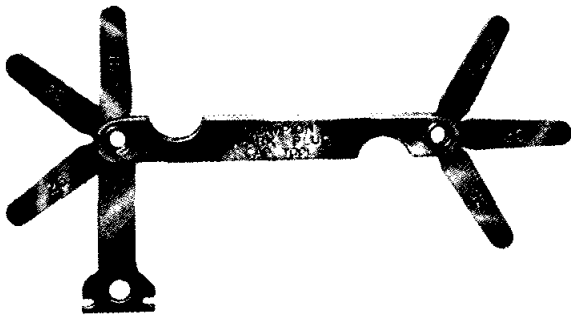

Fig. 44 **The Champion Spark Plug Gap Tool.**
- (h) Next, we are ready for resetting the electrodes (Fig. 44). Remember that electrode corrosion and oxides at gap area vitally affect spark efficiency. The cleaner can remove the oxides and deposits from the insulator, but because of gap location, the cleaner stream cannot always reach this area with full effect, also, the tenacious adhesion of corrosion, etc., would require too much subjection to clean blast for removal. Therefore, when plugs are worthy of further use, it is sometimes good practice to dress the gap area, on both centre and side electrodes, with a small file before resetting to correct gap.